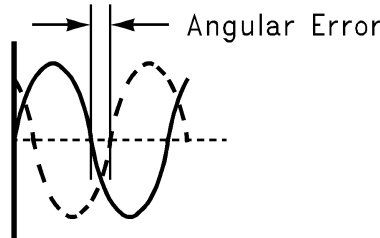
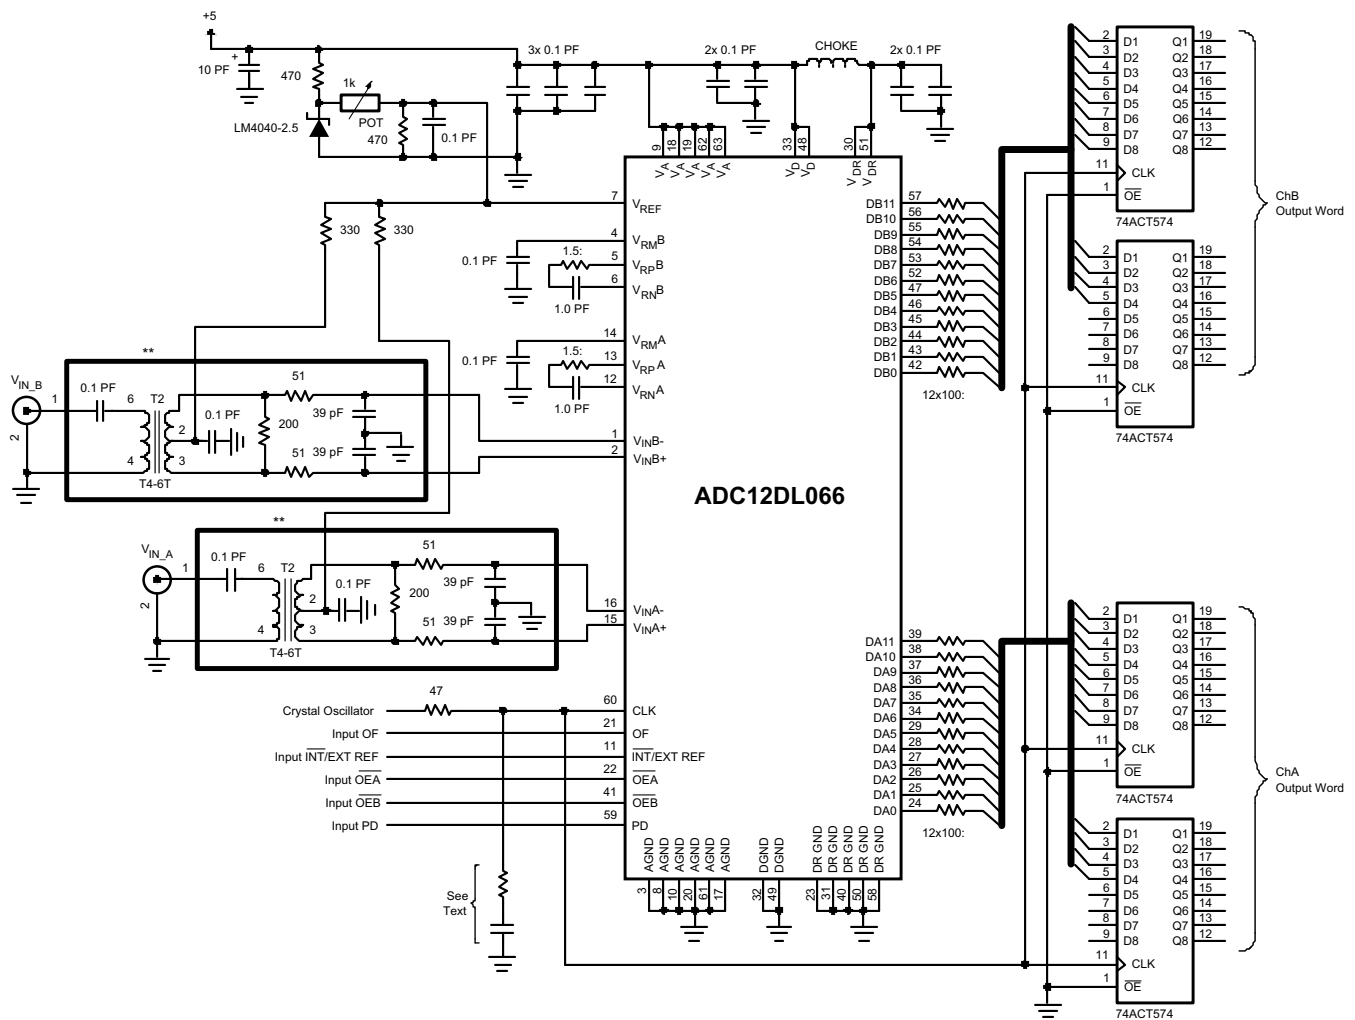
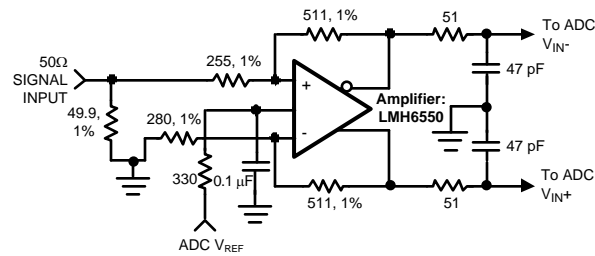

Figure 32. Angular Errors Between the Two Input Signals Will Reduce the Output Level or Cause Distortion
Figure 33. Application Circuit using Transformer or Differential Op-Amp Drive Circuit
Figure 34. Differential Drive Circuit using a fully differential amplifier.
The six Reference Bypass Pins (V_{RPA} , V_{RMA} , V_{RNA} , V_{RPB} , V_{RMB} and V_{RNB}) are made available for bypass purposes. The V_{RMA} and V_{RMB} pins should each be bypassed to ground with a 0.1 μ F capacitor. A series 1.5 Ω resistor (5%) and 1.0 μ F capacitor ($\pm 20\%$) should be placed between the V_{RPA} and V_{RNA} pins and between the V_{RPB} and V_{RNB} pins, as shown in Figure 33. This configuration is necessary to avoid reference oscillation, which could result in reduced SFDR and/or SNR.
- dev is the angular difference in degrees between the two signals having a 180° relative phase relationship to each other (see Figure 32). Drive the analog inputs with a source impedance less than 100Ω. (8)
Because very large input signal swings can degrade distortion performance, better performance with a single-ended input can be obtained by reducing the reference voltage when maintaining a full-range output. Table 1 and Table 2 indicate the input to output relationship of the ADC12DL066. Note again that single-ended operation of the ADC12D040 is not recommended because of the degraded performance that results. A single-ended to differential conversion circuit is shown in Figure 34.
To help isolate the pulses at the ADC input from the amplifier output, use RCs at the inputs, as can be seen in Figure 33 and Figure 34. These components should be placed close to the ADC inputs because the input pins of the ADC is the most sensitive part of the system and this is the last opportunity to filter that input.
Figure 33 shows a narrow band application with a transformer used to convert single-ended input signals to differential. Figure 34 shows the use of a fully differential amplifier for single-ended to differential conversion. The LMH6550 is recommended for single-ended to differential conversion when d.c. or very low frequencies must be accommodated. Of course, the LMH6550 may also be used to amplify differential signals.
It is highly desirable that the the source driving the ADC **CLK** pin only drive that pin. However, if that source is used to drive other things, each driven pin should be a.c. terminated with a series RC to ground, as shown in Figure 33, such that the resistor value is equal to the characteristic impedance of the clock line and the capacitor value is
To minimize noise due to output switching, minimize the load currents at the digital outputs. This can be done by connecting buffers (74AC541, for example) between the ADC outputs and any other circuitry. Only one driven input should be connected to each output pin. Additionally, inserting series resistors of about 100Ω at the digital outputs, close to the ADC pins, will isolate the outputs from trace and other circuit capacitances and limit the output currents, which could otherwise result in performance degradation. See Figure 33.
If the amplifier exhibits overshoot, ringing, or any evidence of instability, even at a very low level, it will degrade performance. A small series resistor at each amplifier output and a capacitor at the analog inputs (as shown in Figure 32 and Figure 34) will improve performance. The LMH6702 and the LMH6628 have been successfully used to drive the analog inputs of the ADC12DL066.